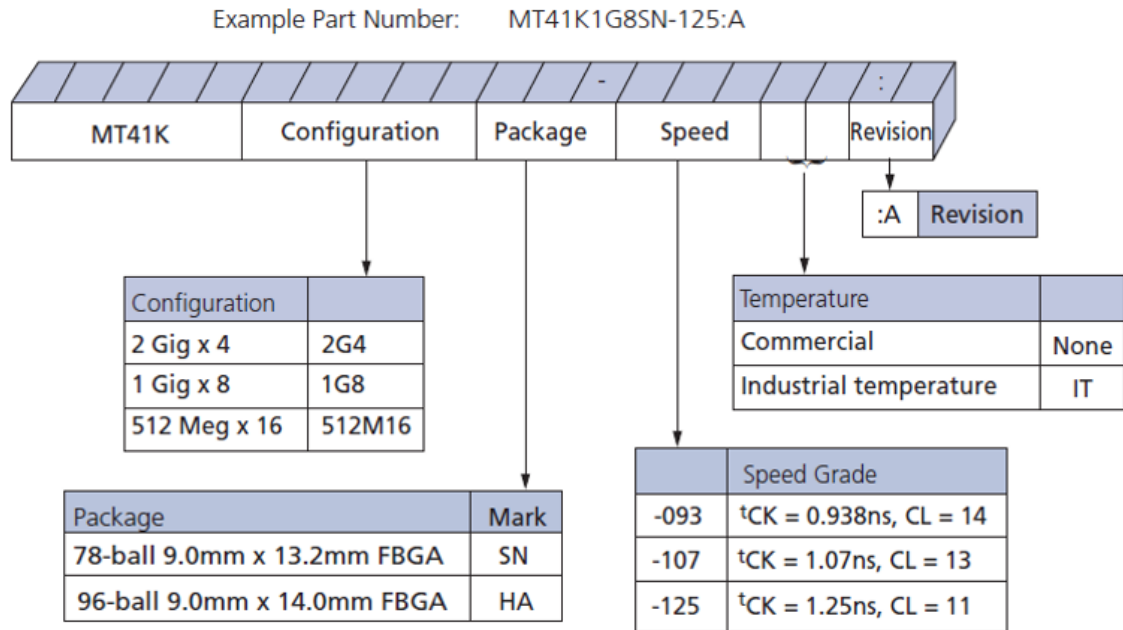

Figure 5-3: DDR Example Part Number
Note: Content of Figure 5-3 used with permission by Micron Technology, Inc.
- o The Micron data sheet in Figure 5-3 shows an example part number and how to identify specific information of interest. For MT41K1G8SN-125:A: